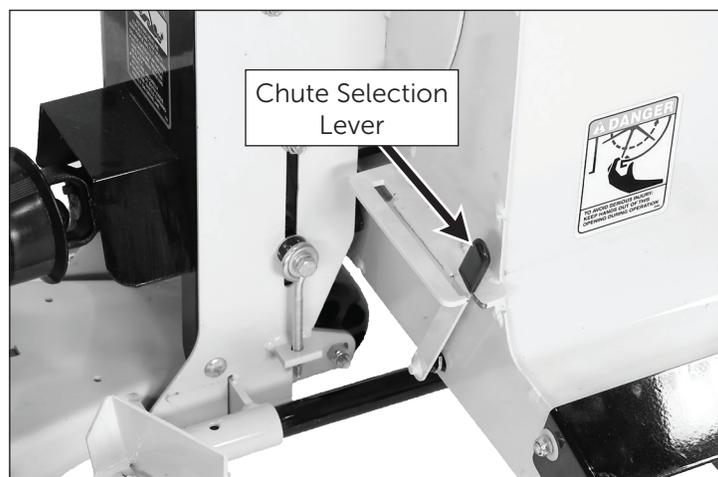

Figure 3.2: Chute Selection Lever
The debris blower is equipped with two (2) blower chutes: One on the RH side of the implement, and one on the LH side of the implement. Only one (1) chute will blow debris at a time. Use the Chute Selection Lever (as shown in Figure 3.2) to select the direction to blow debris.